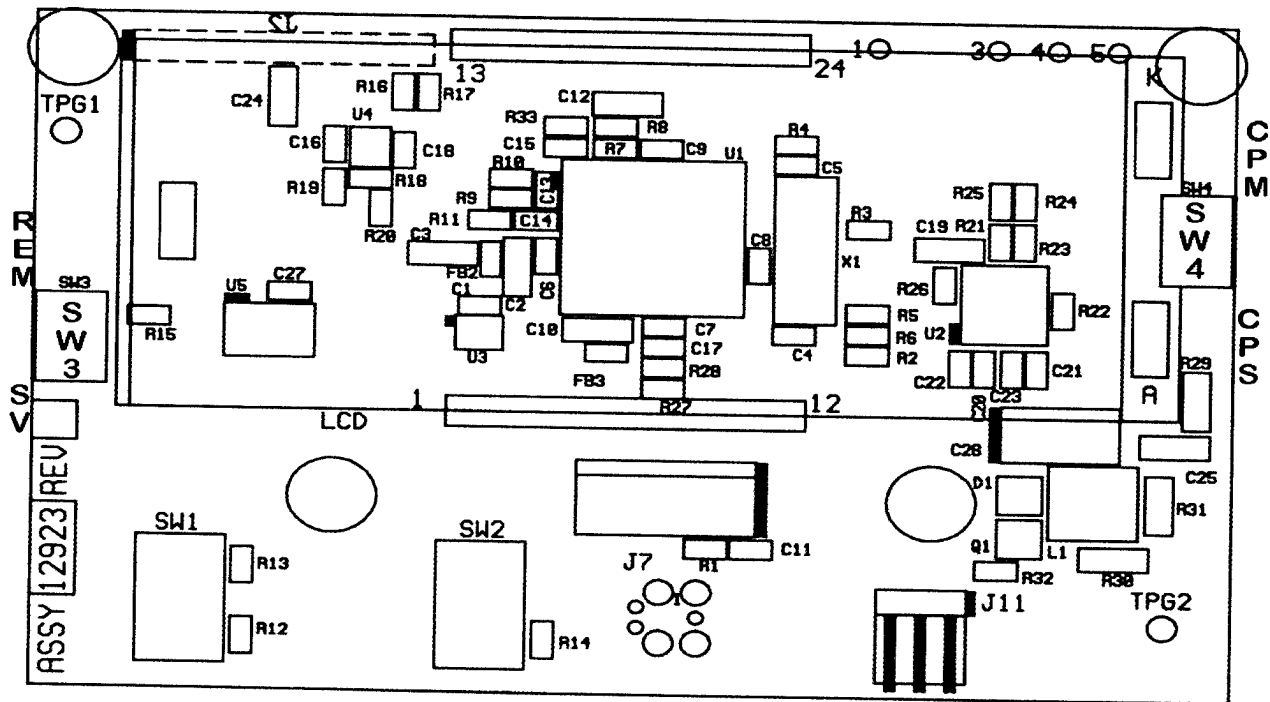

FIGURE 4
- 5.1.1 The DSM-502, 503, 504 HIGH VOLTAGE and GAIN are adjusted to the operating characteristics of the probe supplied with the meter. The GAIN (input sensitivity) is adjusted to 0.050 v-pp with an input sensitivity of 0.050 v p-p. These high voltage and gain settings are satisfactory for operation with the many probes but can produce large errors if the DSM-502, 503, 504 is not calibrated with the internal probe. Refer to the MAINTENANCE SECTION 6.2 for High Voltage adjustment procedure and SECTION 6.3, 6.4 for the calibration of the system. Be sure the R/Sv and the CPM/CPS switch has be set to the proper units before calibrating the system. Figure 4 shows the location of the switch on the LCD pc board.
- 5.2.4 The LCD READOUT can display the probe signals in CPM, COUNTS, ROETGEN AND SEIVERTS. When calibrating the system the decision to operate in CPM or CPS and ROETGEN OR SEIVERTS MUST BE MADE AND THE APPROPORIATE SWITCHES ADJUSTED BEFORE THE SYSTEM IS CALIBRATED. FIGURE 4 SHOWS THE LOCATION OF THE R/Sv SWITCH AND THE CPM/CPS SWITCH.